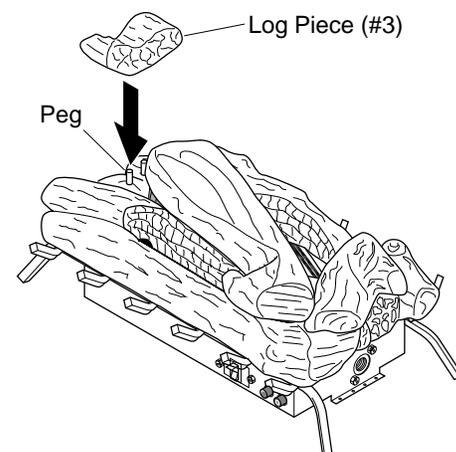

Figure 20 - Installing Log Piece (#3)
3. Position log piece (#3) by aligning holes on underside with remaining pegs on bottom log (see Figure 20).